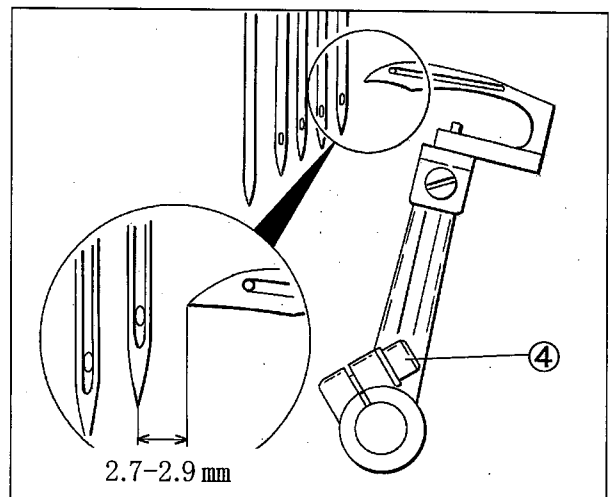

Fig. 12
Then, tighten the screw ④ securely. (Fig. 12)